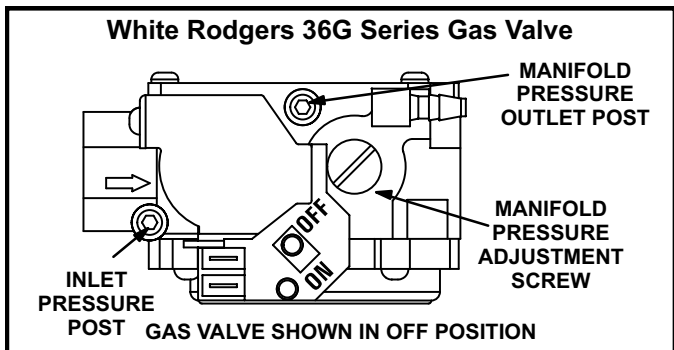

FIGURE 42
- 6 - *White Rodgers 36G Gas Valve* - Switch gas valve lever to **OFF**. See figure 42.
When testing supply gas pressure, use the 1/8" N.P.T. plugged tap or pressure post located on the gas valve to facilitate test gauge connection. See figures 42 and 43. Check gas line pressure with unit firing at maximum rate.
The White Rodgers 36G gas valve (figure 42) is equipped with pressure posts for measuring supply and manifold pressures. The posts provide built-in hose connections and have an integral 3/32" Allen-head screw. Rotate the screw counterclockwise one full turn to permit pressure measurement. Reseat the screw (rotate one full turn clockwise) after measurements have been taken to prevent gas leakage.